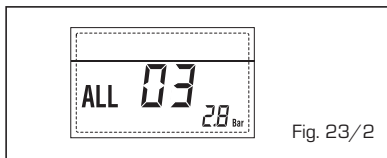

Fig. 23/2
**- ANOMALIA SONDA SANITÁRIO "ALL 04" (fig. 23/3)**